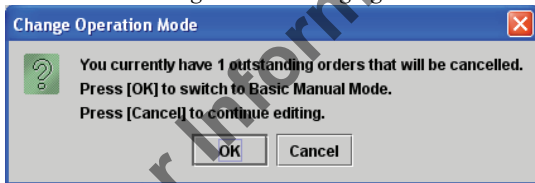
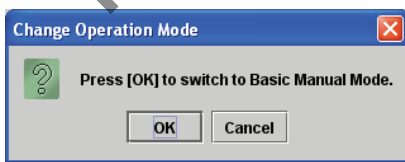
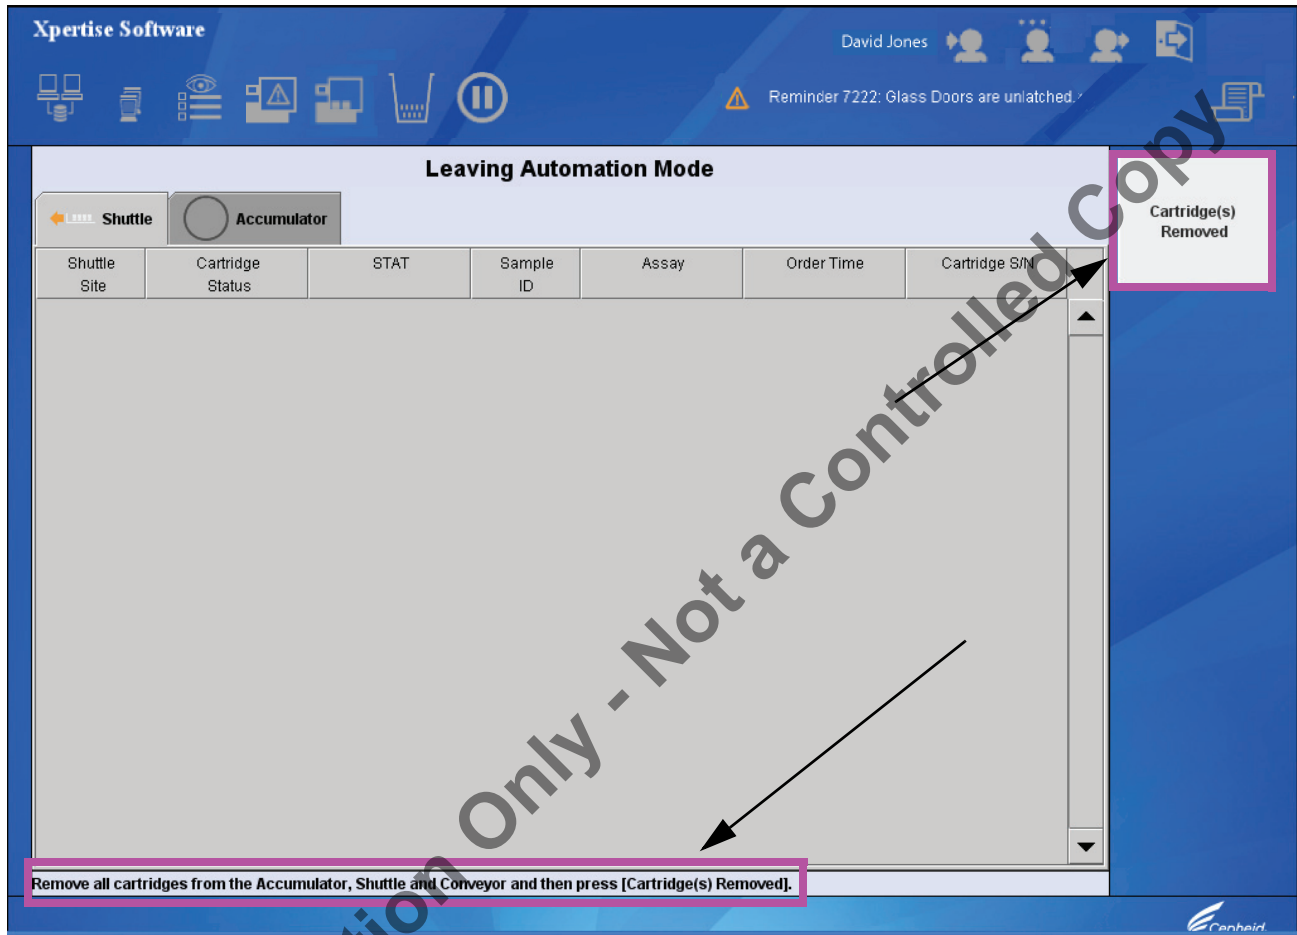
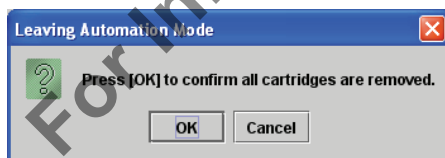

Figure 54. Change Operation mode dialog box - when outstanding orders are pending
Figure 55. Change Operation dialog box—when no outstanding orders pending
Figure 56. Leaving Automation Mode workspace
Figure 57. Leaving Automation Mode dialog box
When there are outstanding orders pending, the Change Operation Mode dialog box will appear as shown in Figure 54; otherwise, it will appear as shown in Figure 55.
Confirmation Dialog Box for Changing to Manual Mode Appears (Figure 54).
7. For the dialog box for outstanding orders pending, click **OK** to go to the Leaving Automation mode workspace (Figure 54).
8. For the dialog box for no outstanding orders pending, Click **OK**. Figure 55. The Leaving Automation Mode workspace appears (Figure 56).
9. As stated at the bottom of the Leaving Automation Mode (Figure 56), open the glass doors, remove all cartridges from the Accumulator, Shuttle, and Conveyor and then press the **Cartridge(s) Removed** button. The Leaving Automation Mode dialog box appears (Figure 57).
10. Click the **OK** button (Figure 57).